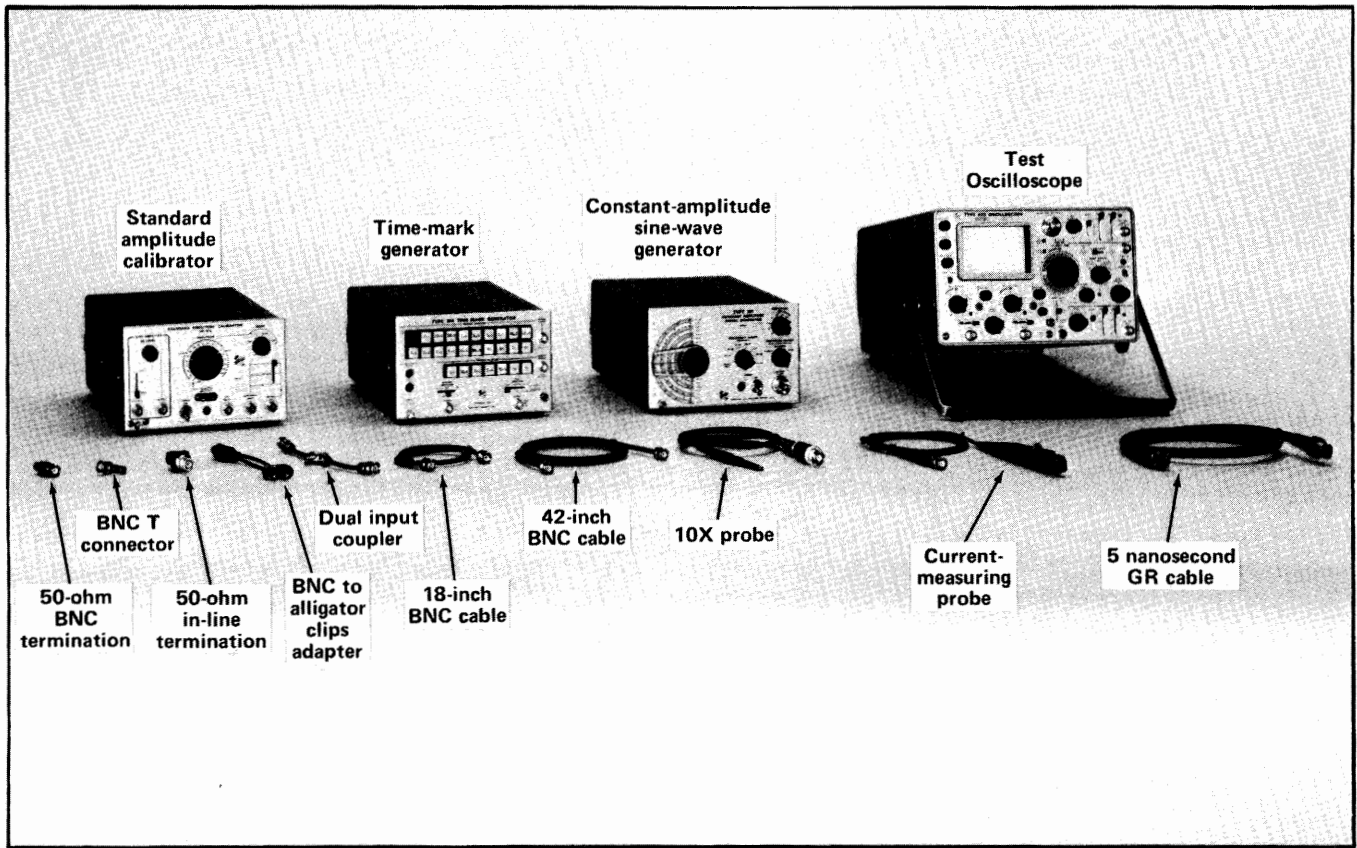

Fig. 5-28. Test equipment required for steps 41 through 74.
- Test equipment required for steps 41 through 74 is shown in Fig. 5-28.